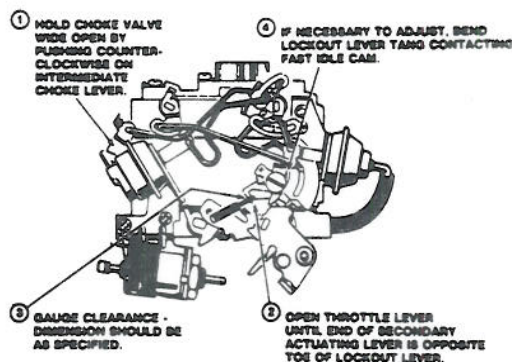

Fig. 19 Secondary lockout adjustment (Typical). 2SE & E2SE carburetor
2. Position throttle lever until end of secondary actuating lever is opposite toe of lockout lever, Fig. 19.